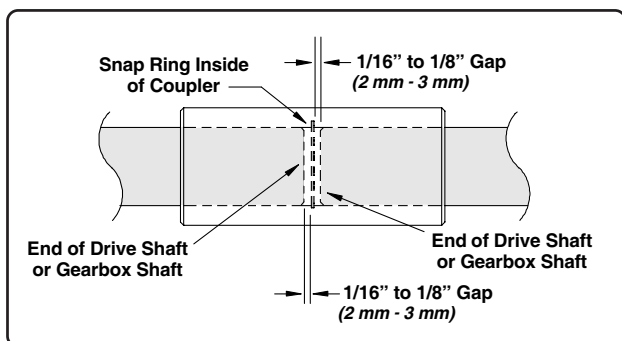

Fig. 28
Insert the 1/4" x 1 1/2" keys into the keyways on both shafts. Apply an anti-seize compound to the shaft ends and using the coupler, connect the shafts together (leave about a 1/16" to 1/8" (2 mm - 3 mm) space between the shafts to allow for expansion as shown in Fig. 28).
1. Position the PTO gearbox mount plate and half-bands at the inlet end of the auger close to the end of the drive shaft. Loosely attach the mount plate and half-bands using eight (8) 3/8" x 1 3/4" bolts and nylon locknuts (See illustration below).
2. Set the gearbox on top of the mount plate and secure using four (4) 1/2" x 1" bolts and lock washers.
4. Apply an anti-seize compound to the gearbox shaft. Insert the 1/4" sq. x 1 1/2" key into the end of the gearbox shaft and slide the gearbox and mount assembly towards the drive shaft, inserting the gearbox shaft into the coupler (leave an 1/16" to 1/8" (2 mm - 3 mm) gap between the end of the shafts and the snap ring in the coupler as shown in Fig. 28).